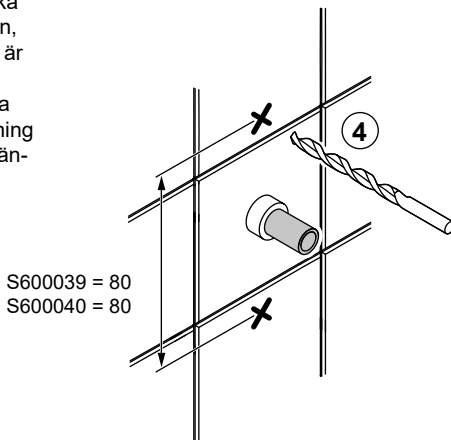

Fig. 1
Alla infästningar med skruv genom tätskikt ska tätas, se "Fig. 1" eller "Fig. 2". Material för tätning ska fästa mot underlaget och vara vattenbeständigt, mögelresistent och åldersbeständigt.
4. The screw mountings where the bath or shower will be installed should be of a sturdy design, for instance made of concrete, wooden studs, wooden nogging pieces or a design that has been tested and approved for mounting. If mountings are fitted with screws through the moisture barrier, the holes must be sealed. See "Fig. 1" or "Fig. 2". The sealant material must attach firmly to the underlying surface and be water-resistant, mould-resistant and non-ageing.